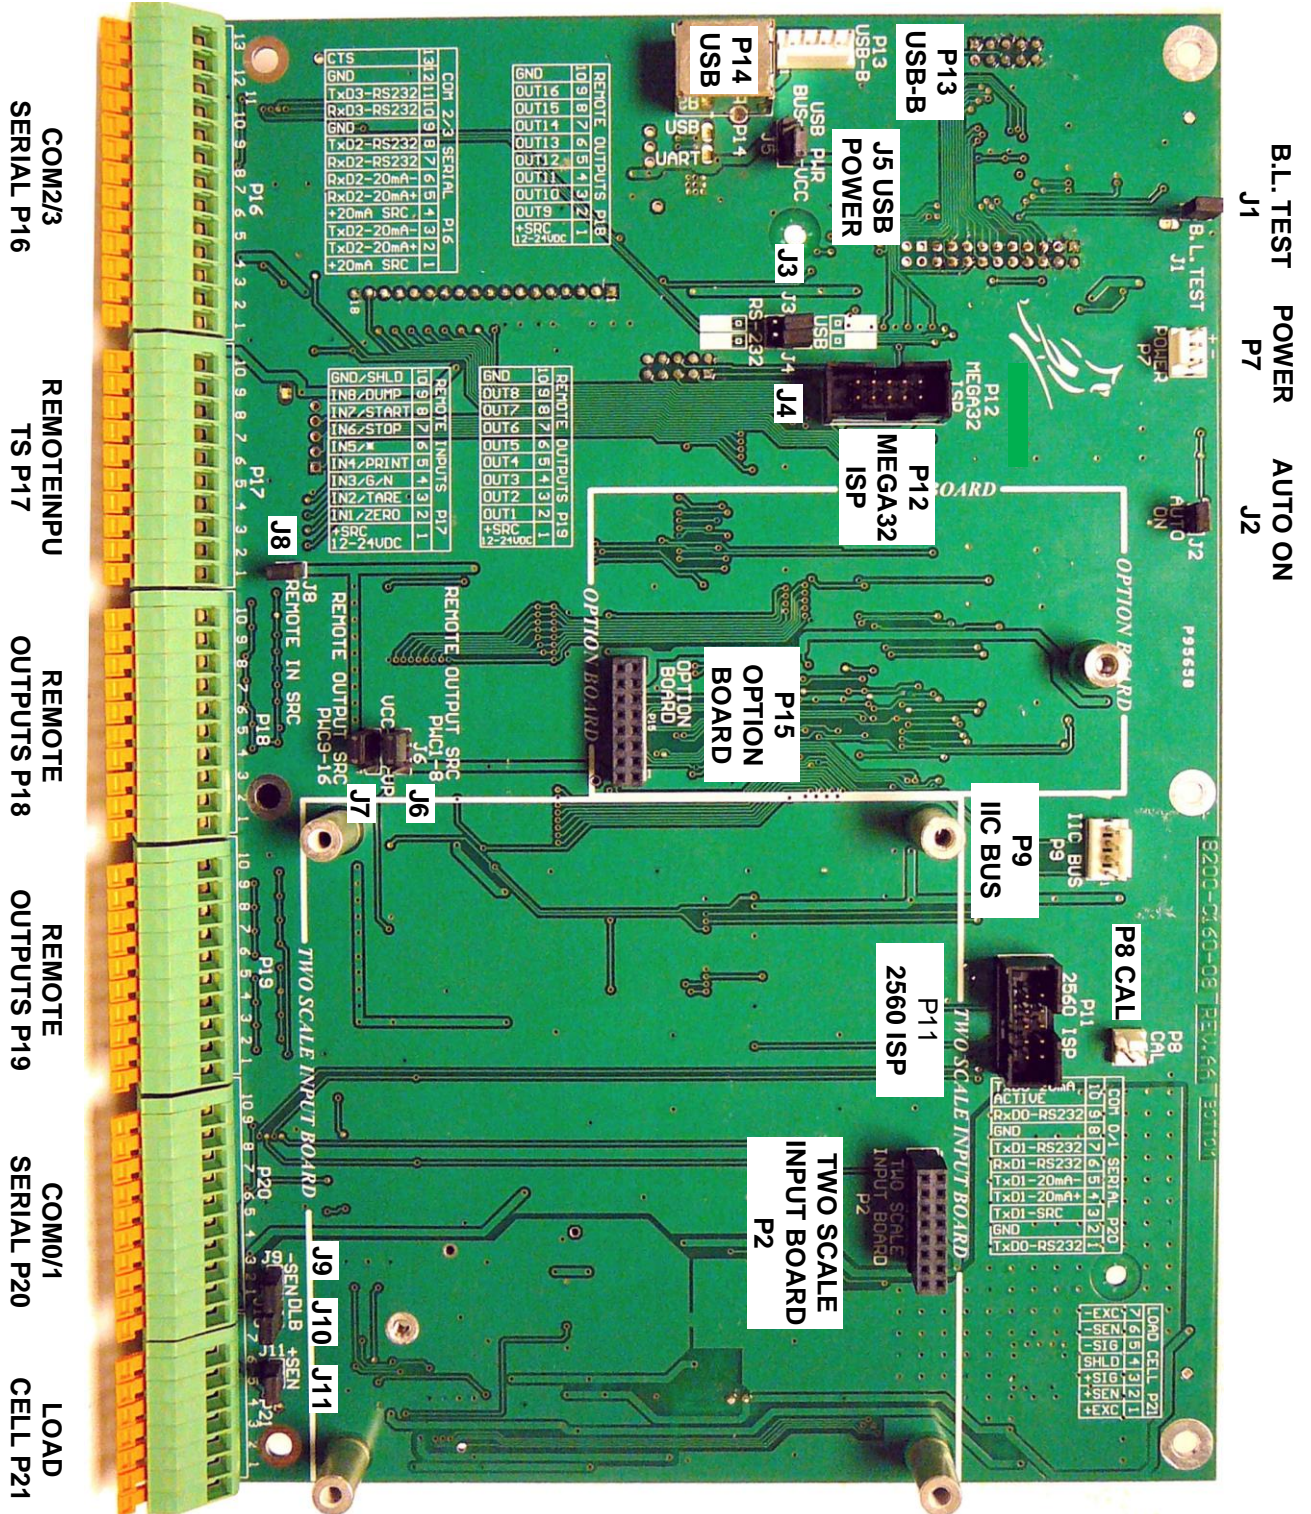

Figure No. 3
When installed, these jumpers allow the 225 indicator to supply (source) 5 VDC (VCC) or 15VDC (VP) to a solid-state relay or other load of 200 ohms or greater. To operate from the 5 VDC (VCC) or 15VDC (VP) source, the positive connection from the relays must be connected to P18 (P19) pins 2 through 9 and the negative wire from the relays to P18 (P19) pin 10 (GND). See Figure No. 3 for the location of connector P18 and P19.
When installed, this jumper allows the 225 indicator to supply (source) 5 VDC to a remote input circuit. Connecting P17 pins 1 through 9 to P17 pin 10 (GND) through a switch will cause the selected action. See Figure No. 3 for connector P17 location.